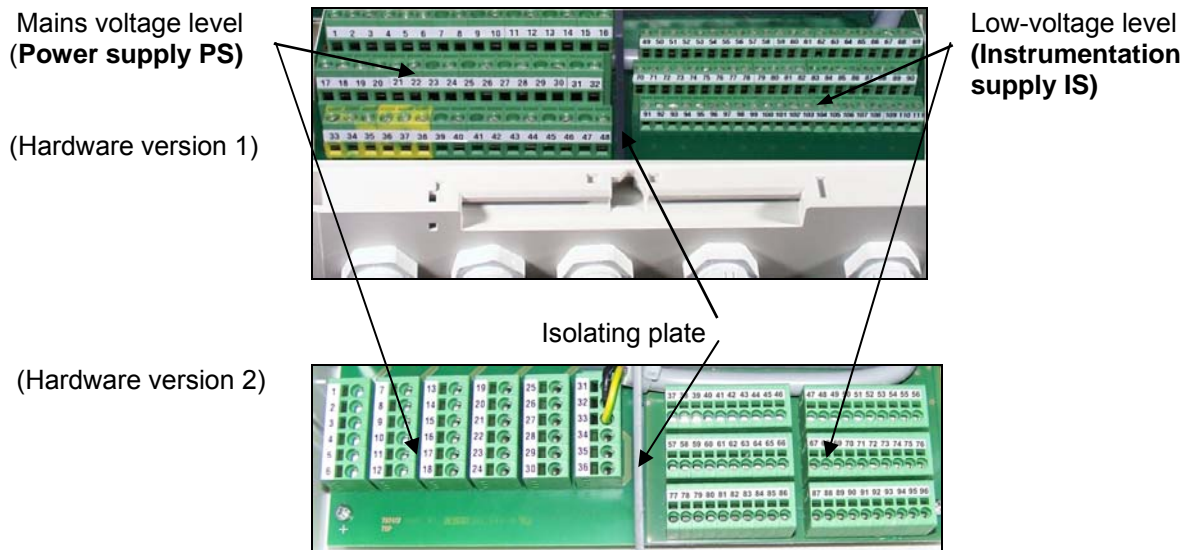

Figure 4: Viewing the inside of the terminal strip compartment (with the cover plate removed) of the „Type 8620 mxCONTROL“:
- The terminal strips for the mains voltage level (power supply) and the low-voltage level (instrumentation supply) are separated by an isolating plate (see Figure 4).